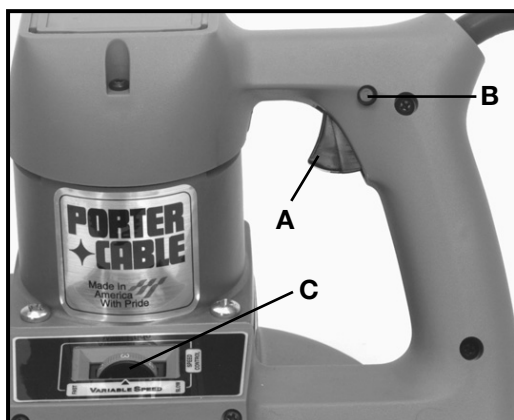

Fig. 1
2. Squeeze trigger switch (A) Fig. 1, to start motor. Release trigger to stop motor.
3. A lock button (B), Fig. 1, is provided to keep the saw running without holding the switch trigger "ON". To lock the switch trigger "ON", squeeze the trigger as far as it will go and push in the lock button and release trigger. To UNLOCK the lock, squeeze trigger allowing lock button to spring free and release trigger.
4. The 7724 is equipped with an adjustable variable speed control. The speed is adjusted by turning the control knob (C), Fig. 1.